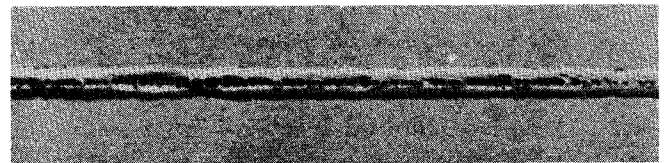

FIGURE 8 — Porosity from backward arc blow is more common on the finish end of welds in light gauge sheet metal than in any other type of weld.
2. Flat to slightly convex beads (Figure 8) make slag removal much easier than undercut beads which tend to lock the slag to the weld at the edges of the bead.
In heavy work, it is usually faster to put in many small beads with a continuous operation than to put in larger beads and have to stop to remove slag. See Figure 8. The amount of current used on the job determines the wire melt-off rate and, consequently, how fast the joint is filled. It makes no difference whether the travel speed is slow and the beads are large, or the travel speed is fast and beads are small as far as deposit rate is concerned.
**Figure 8 — Using small, well shaped beads (left) improves slag removal. Small beads can be made with faster travel speeds and no decrease in current or deposition. Beads like those on the right cause the slag to lock-in and remove only with difficulty.**